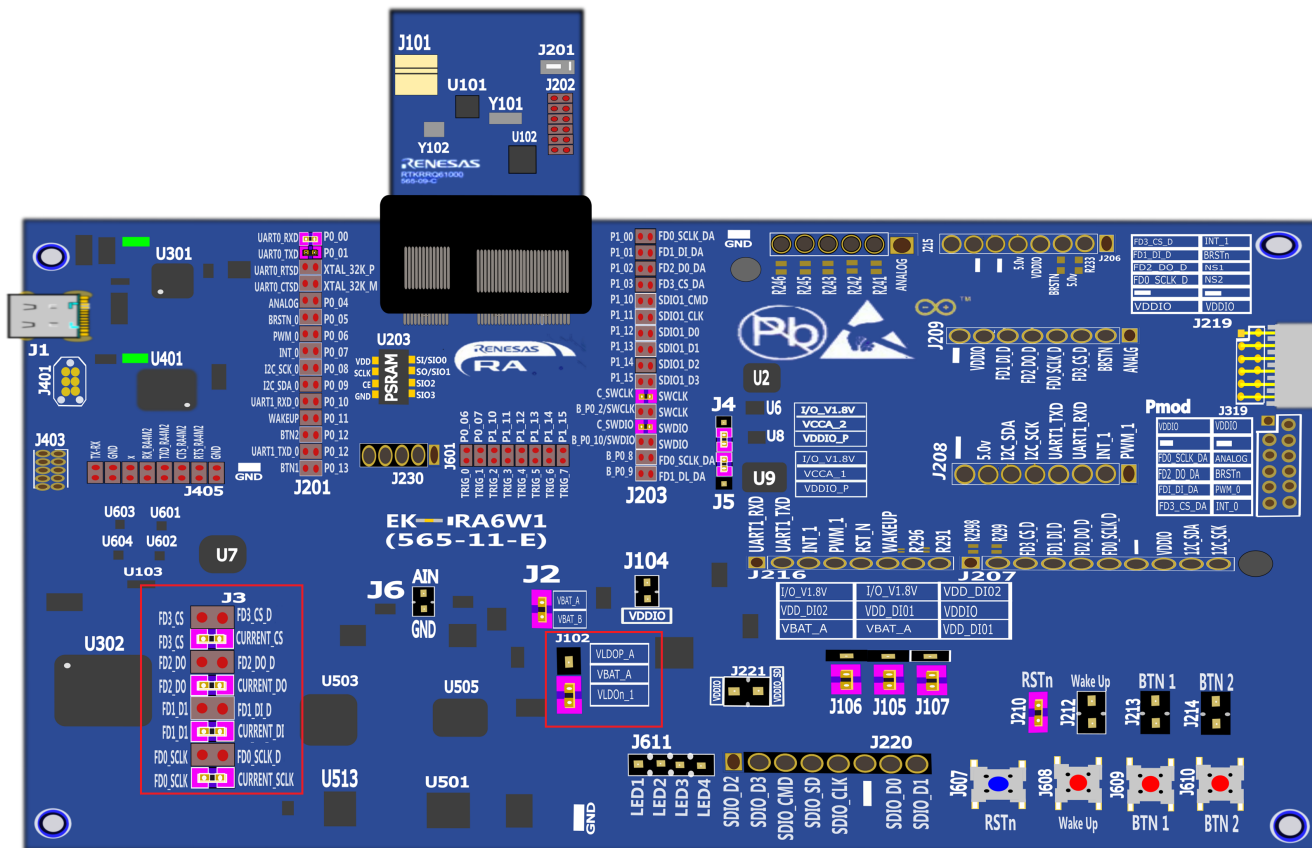

Figure 46. Jumper setting
2. Connect jumpers between the pins highlighted in red in Figure 46. LED light turns on when jumper J102 is set.